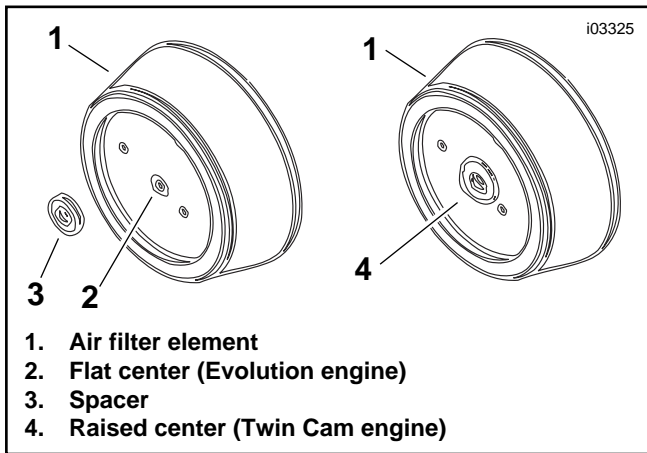

Figure 3. High-Flow Air Filter Elements
3. See Figure 3 and the Service Parts illustration.